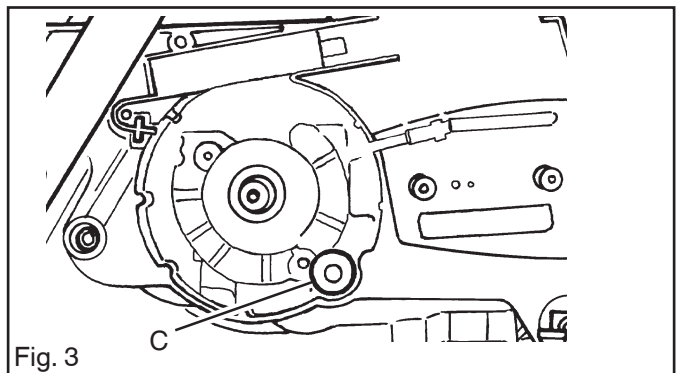

Fig. 3
5. Use pointed pliers and pull up the suction pipe (C) with filter. See fig. 3.